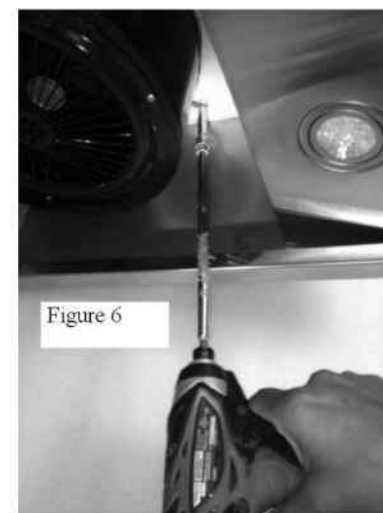

Figure 6
From inside of the hood, place screws into the exact center of each knockout holes (4) and secure to cabinet bot tom. Finish tightening all screws until secure. Be careful when using electrical screwdriver, damage to the range hood may occur. Figure 6